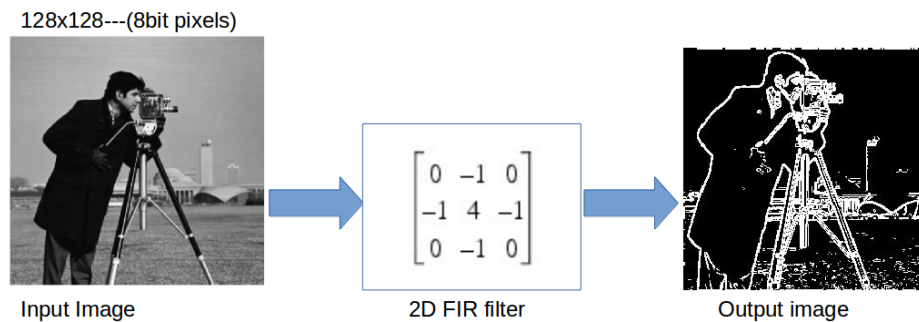

Figure 1: image processing system and the expected results are given.
In this experiment, it is expected to you implement an image processing system. The system reads the image from Block RAM as a stream. Then a 2-d Highpass filter is applied to the image. Finally, the result image is written on another Block RAM. In Fig. 1, image processing system and the expected results are given.
2. connect the evaluation of  $w_n K_n$  operations to  $a_n, n = 1, 2, \dots, 9$ . Take the  $K_n$  as given in Fig. 1.